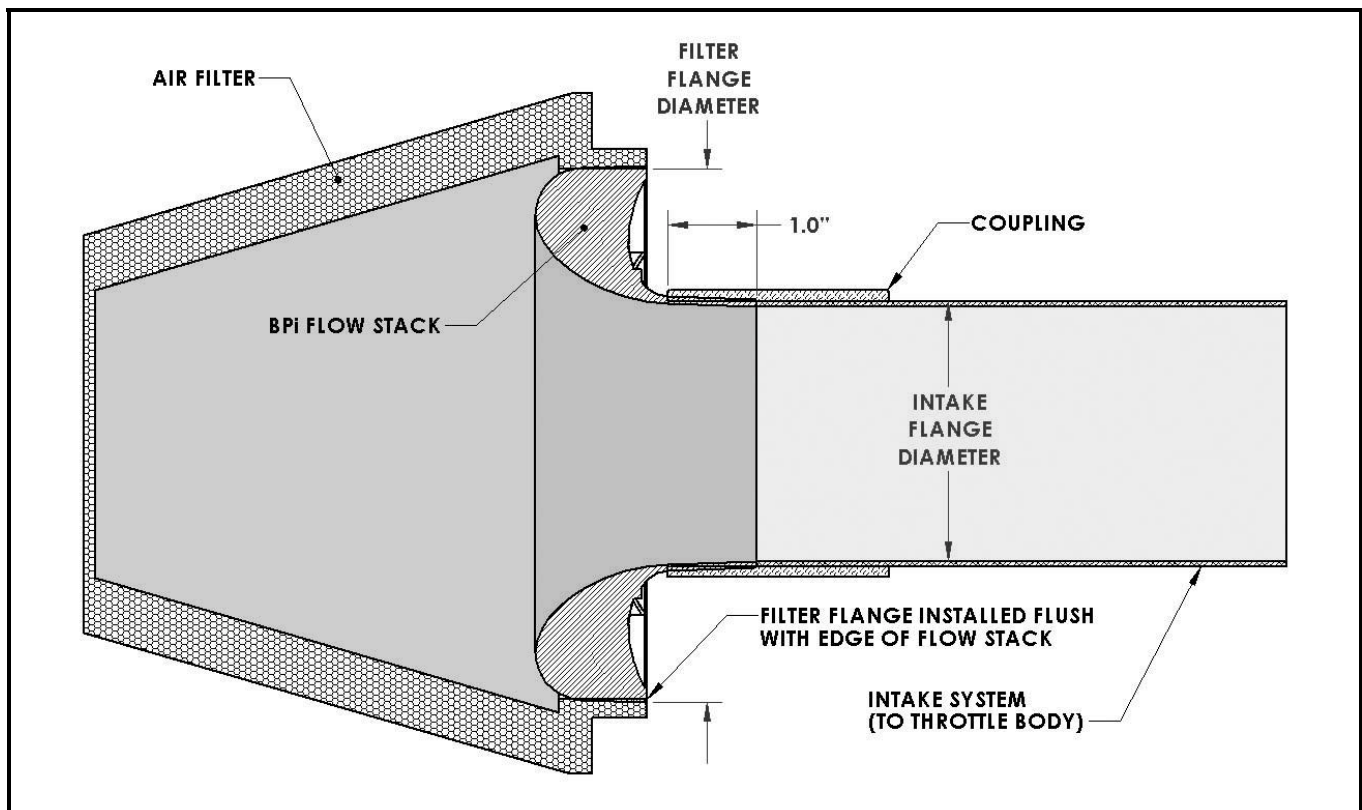

Figure 1.
- 2) Assemble recommended air filter (or equivalent) and BPI Flow Stack. Position the filter on the Flow Stack with the filter flange flush with the BPI Flow Stack as shown in figure 1.
- 3) Assemble coupling to Flow Stack using a band clamp. Position the coupling 1.0" from end of BPI Flow Stack as shown in figure 1. The coupling band clamp should be positioned close to the filter to prevent distortion of the flange when the band clamp is tightened.